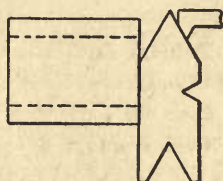

Fig. 4.
**The Manner of setting the Tool** is shown in Fig. 4 (p. 19). The work is supposed to be held in a chuck, the hole either drilled or bored to the required diameter, and the end "squared up." By applying the gauge as shown, the tool can be set at right angles to the work axis.